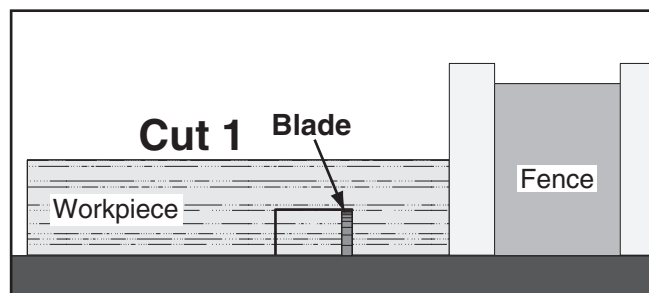

Figure 61. First cut for a single-blade dado.
5. Align the blade to cut one of the dado sides, as shown in **Figure 61**.